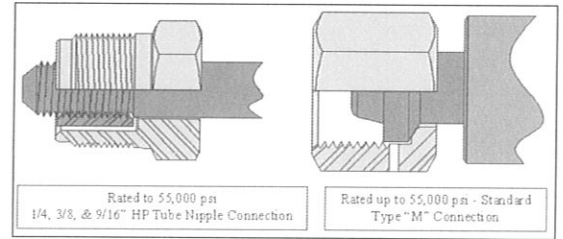
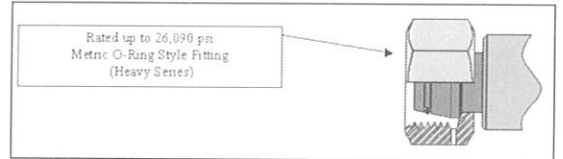

Figure 4 - Basic design of High Pressure (HP) Tube Nipple and Standard Type "M" Fitting.
Figure 5 - Basic design of European Style DIN 20 (heavy series) Metric O-Ring Fitting
UHP fittings come in many connection types and sizes. Illustrated in figure 4 is a 3/8" high-pressure tubing nipple and a Type M fitting. High-pressure tube nipples use a gland nut and collar arrangement. A better gland nut & collar configuration is the anti-vibration type, which prevents the tube from fatiguing at the thread root and the metal-to-metal seal from fretting, cracking and then leaking. The European style high-pressure tubing, gland nut and collar, use metric threads rather than unified threads (UN) found in North America. The Type "M" profile is available in all hose sizes and working pressures up to 55,000 psi. The swivel nut has an internal thread and also protects the male cone so neither can become damaged. The Type M fitting also eliminates the problem of external thread failure common with tubing nipples. The European Type M equivalent uses a metric or a BSPP thread (British Standard Parallel Pipe). Illustrated in figure 5 is the DIN 20 (heavy series) fitting, which is more popular in Europe and Asia.